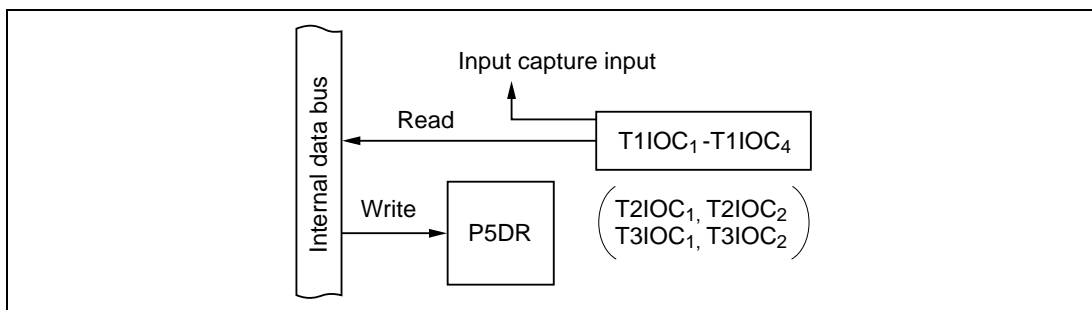

Figure 10-33 Input Capture Combined with General-Purpose Input (Modes 1 to 7)
(5) Timer Input Combined with General-Purpose Input (Modes 1 to 7): Figure 10-33 shows a block diagram illustrating the input capture function when combined with general-purpose input. Table 10-25 indicates register read/write data. An input capture pin can also be read as an input port, to monitor the timer input level at T1IOC₁ to T1IOC₄, T2IOC₁, T2IOC₂, T3IOC₁, or T3IOC₂.